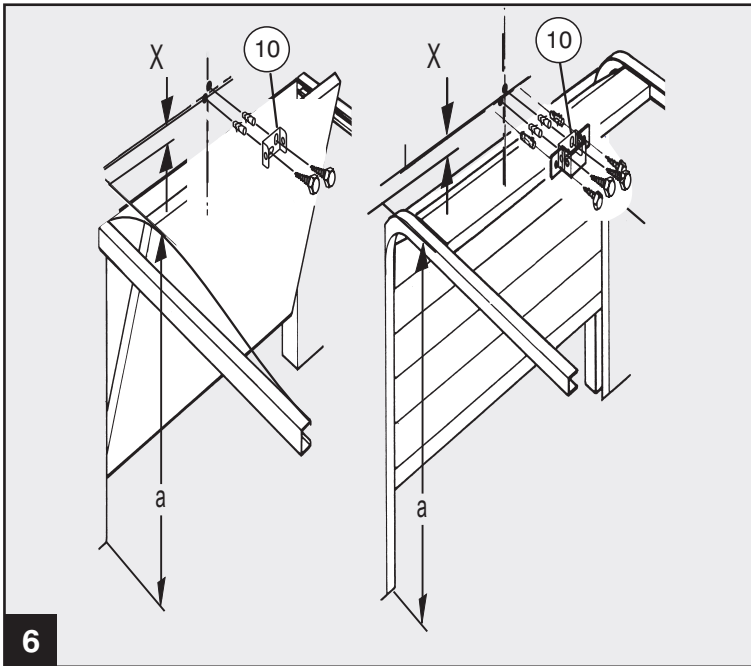

Fig. 6 - Mounting the wall fixing
4. Determine highest point of the door's running track (see Figure 6).